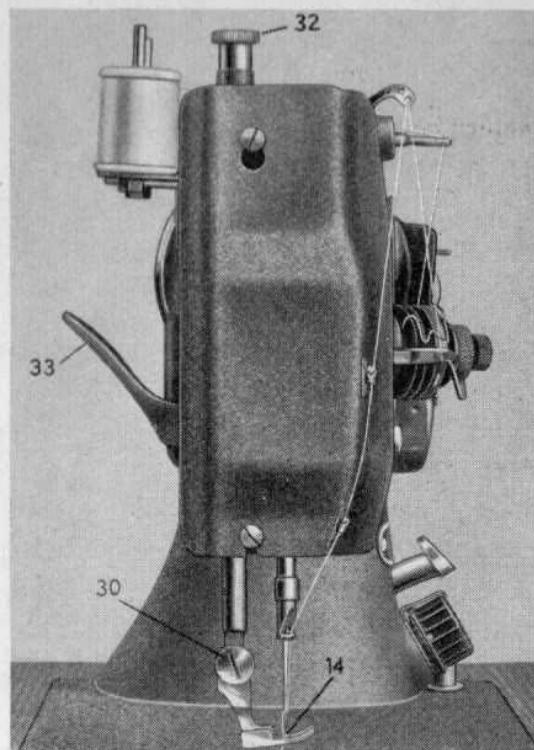

FIG. 10
must bear down on the material. Presser foot lifter (33) controls the raising and lowering of the presser foot. (Fig. 10.)
Regulating the pressure of the presser foot: Turn regulator bushing (32), fig. 10 to the right for more pressure and to the left to reduce it. When sewing heavier material, stronger pressure of the presser foot is often desirable. Thin cloth usually requires reduced pressure of the presser foot.
- c. Loosen thumb screw (30), fig. 10 about three turns. Push presser foot downward from its seat on the presser bar. Tilt the bottom of the foot to the left and remove the foot.
- d. To install a different presser foot, slide its channel-like portion at the top upward against the presser bar and tighten thumb screw (30).